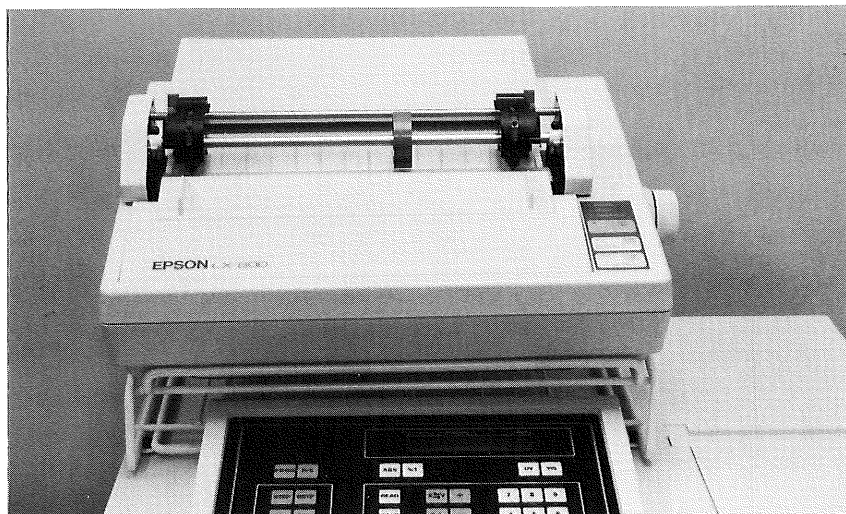

Figure 20.
31. Place the printer on the printer stand. See Figure 20.